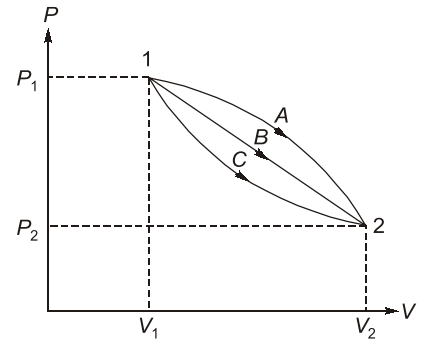

Figure 2.6 Work a Path Function
- With reference to Fig. 2.6 below, it is possible to take a system from state 1 to state 2 along paths labelled A, B or C. As the area enclosed under the curve along each path is different therefore work done along each path is different. Hence work is dependent on the path followed and not just the initial and final states. This makes work a path function and an inexact differential i.e. $W = \int_1^2 \delta W \neq W_2 - W_1$ rather $W = \int_1^2 \delta W = W_{1-2}$ or ${}_1W_2$.